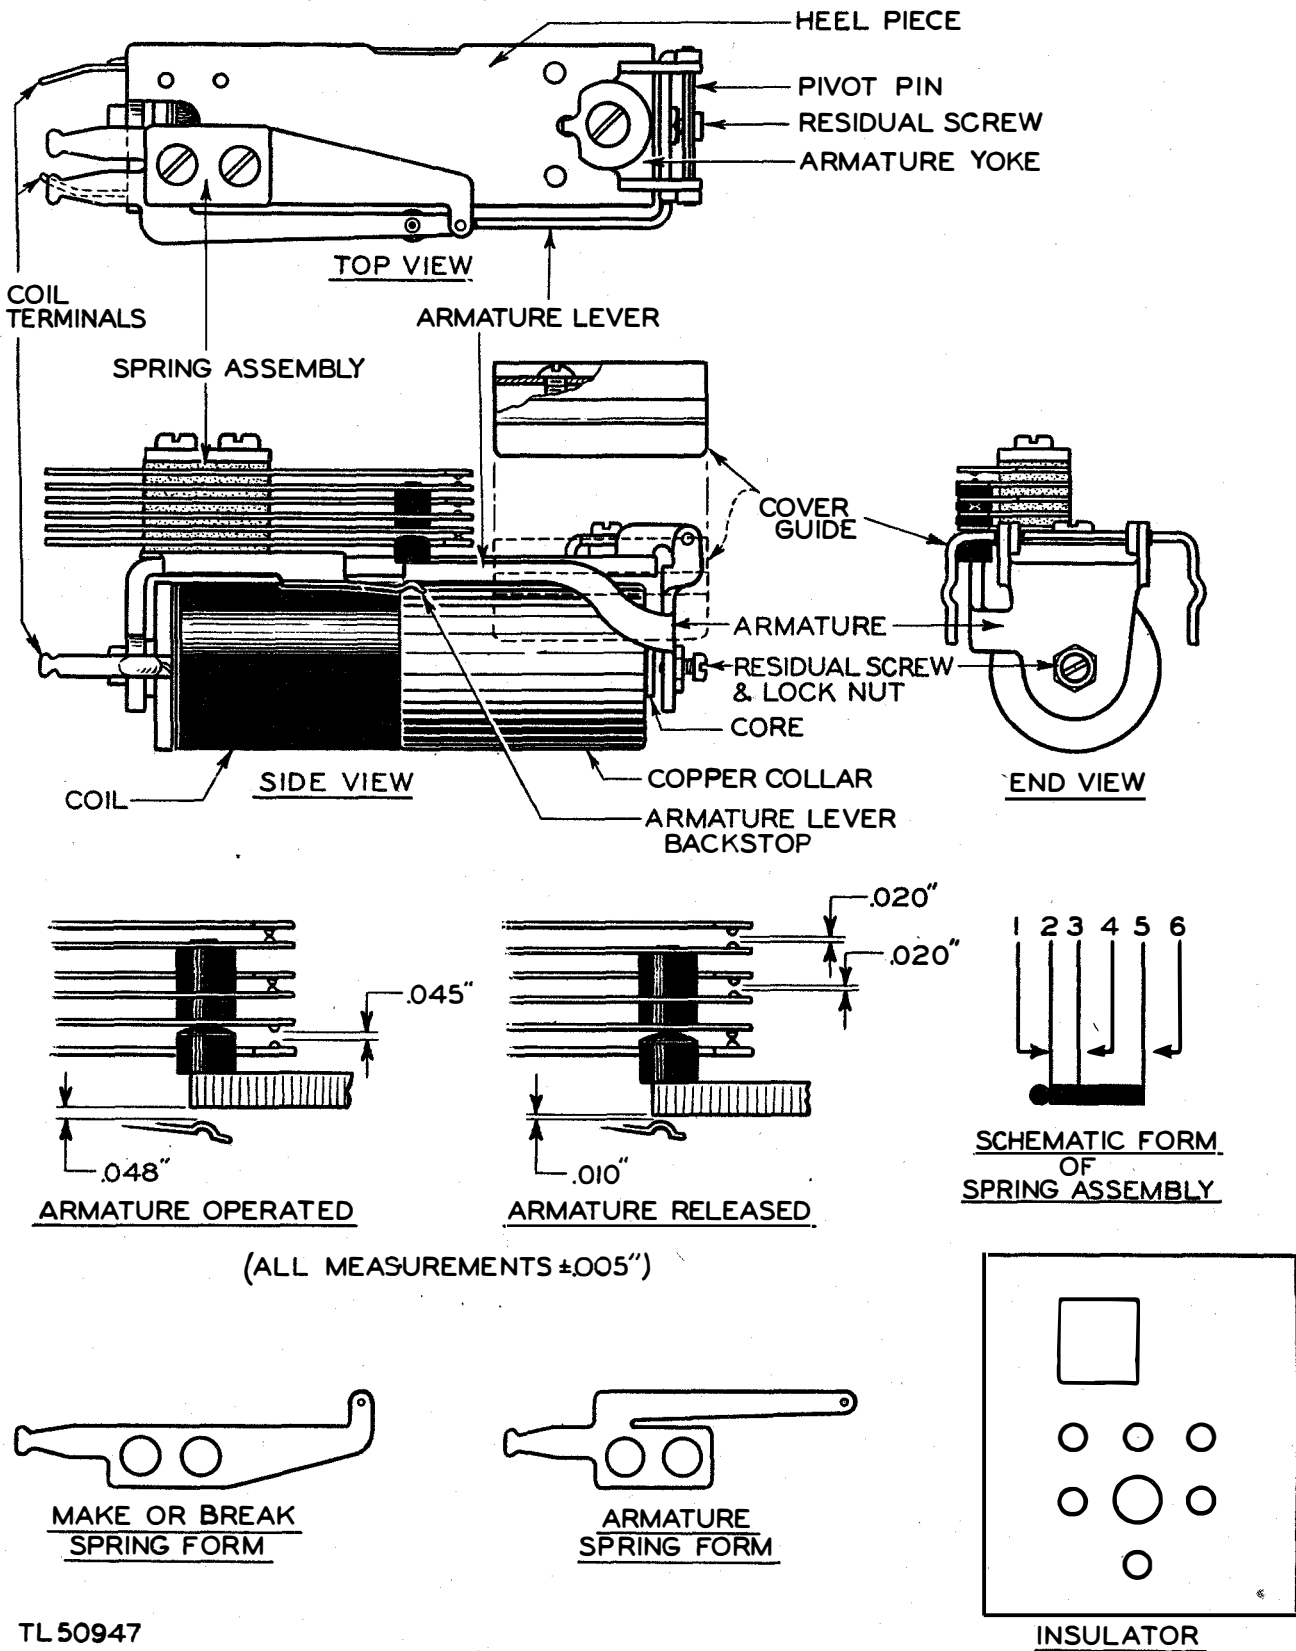

Figure 39. Mechanical requirements of slow-release relay.
**b. Requirements.** The residual screw (fig. 39) should be adjusted until the end of the screw is flush with the face of the armature nearest the core. Tighten the lock nut. The W. E. Co. number 482 switchboard tool, composed of a socket wrench and screwdriver, is designed for adjusting residual screws. The contact clearances for operated and nonoperated (released) conditions are as follows:
(1) OPERATED. With the residual screw adjusted as described in subparagraph *b* above, and with the armature fully operated, either electrically or by hand, the clearances shown in figure 39 should be obtained. Measure the clearances with a W. E. Co. number 74D3 thickness gauge.
(2) NONOPERATED (RELEASED). With the armature in the nonoperated (released) position, the clearances shown in figure 39 should be obtained. Measure the clearances with a W. E. Co. number 74D3 thickness gauge.